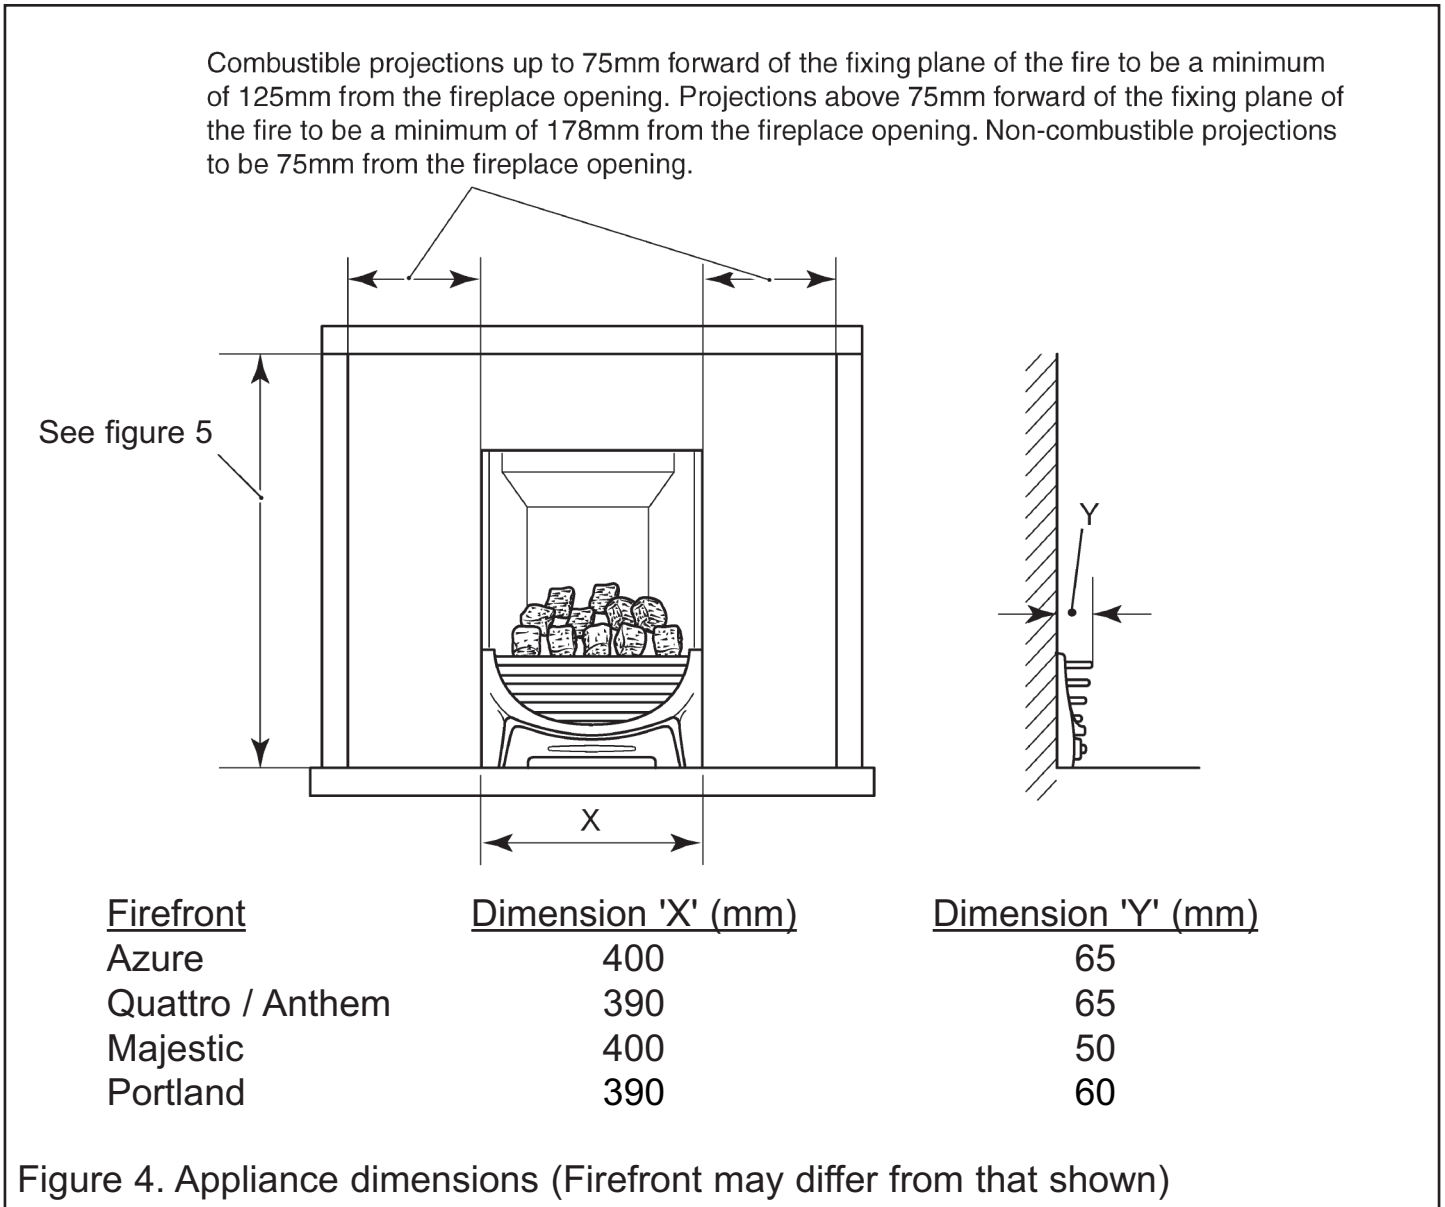

figure 4).
4.9.1 Combustible side projections up to 75mm forward of the fixing plane of the fire are to be a minimum of 125mm from the fireplace opening (See figure 4).
4.9.2 Combustible side projections greater than 75mm forward of the fixing plane of the fire are to be a minimum of 178mm from the fireplace opening (See figure 4).